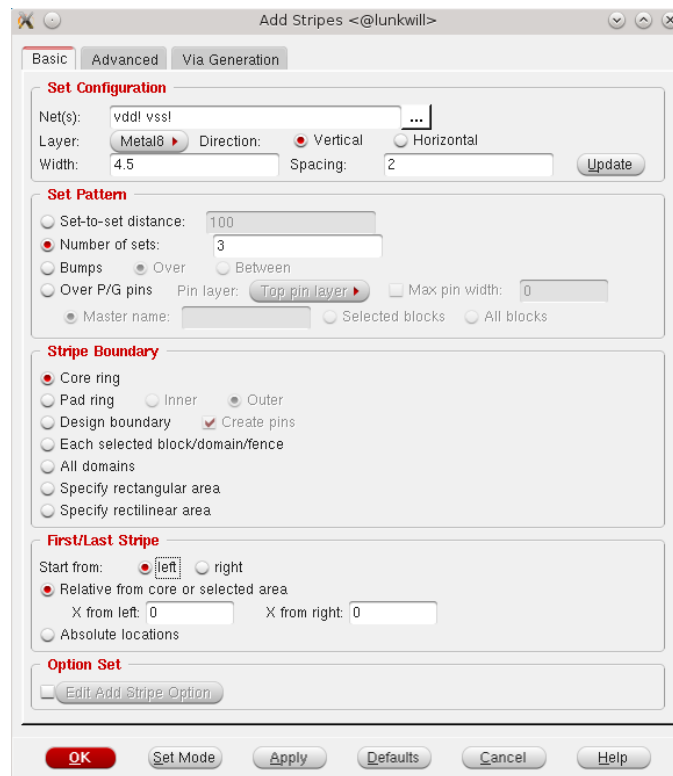

Figure 4.5: Add Stripes window.
4. Add three sets of vertical power stripes on layer M8, by entering settings like in Figure 4.5. Press OK.